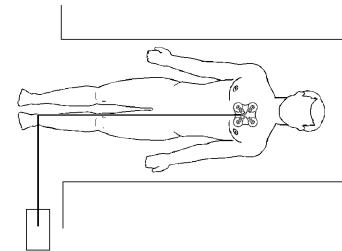

Figure 4-1. Patient Placed in Magnet Bore Head First
- (1) Place cables and lead wires neatly in straight alignment from ECG electrodes to bore exit with no loops (loops are not only closed but U shaped or S shaped) in the ECG cable (See **Figure 4-1**), inside or just outside the bore of the magnet. **Never connect two ECG patient cables to patient, contact Invivo Technical Service for information on gating interface to MRI magnet.**